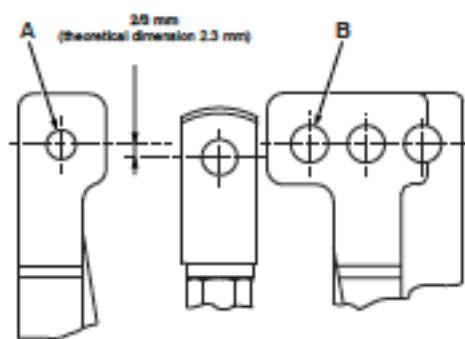

Figure 15 - Presetting the plug stem position
4.2.1 Adjusting the plug stem on the VariPak 28001 single-lever valve (Figures 15, 16 and 26)
- Loosen nut (103) and turn the plug stem using a screwdriver while blocking clevis (104a) until the clevis is in the position shown in figure 15. Lock nut (103).
- 2.3 mm below the alignment of the pin holes in the actuator bracket (108) for the VariPak 28001 single-lever valve (see figure 15).